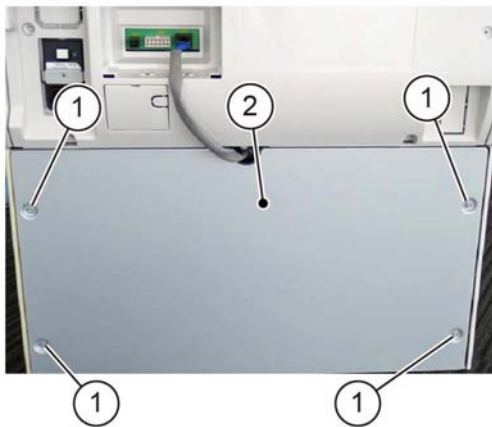

Figure 2 Rear cover removal
1. Remove the rear cover, Figure 2:
- a. Remove four screws (1).
- b. Remove the rear cover (2).